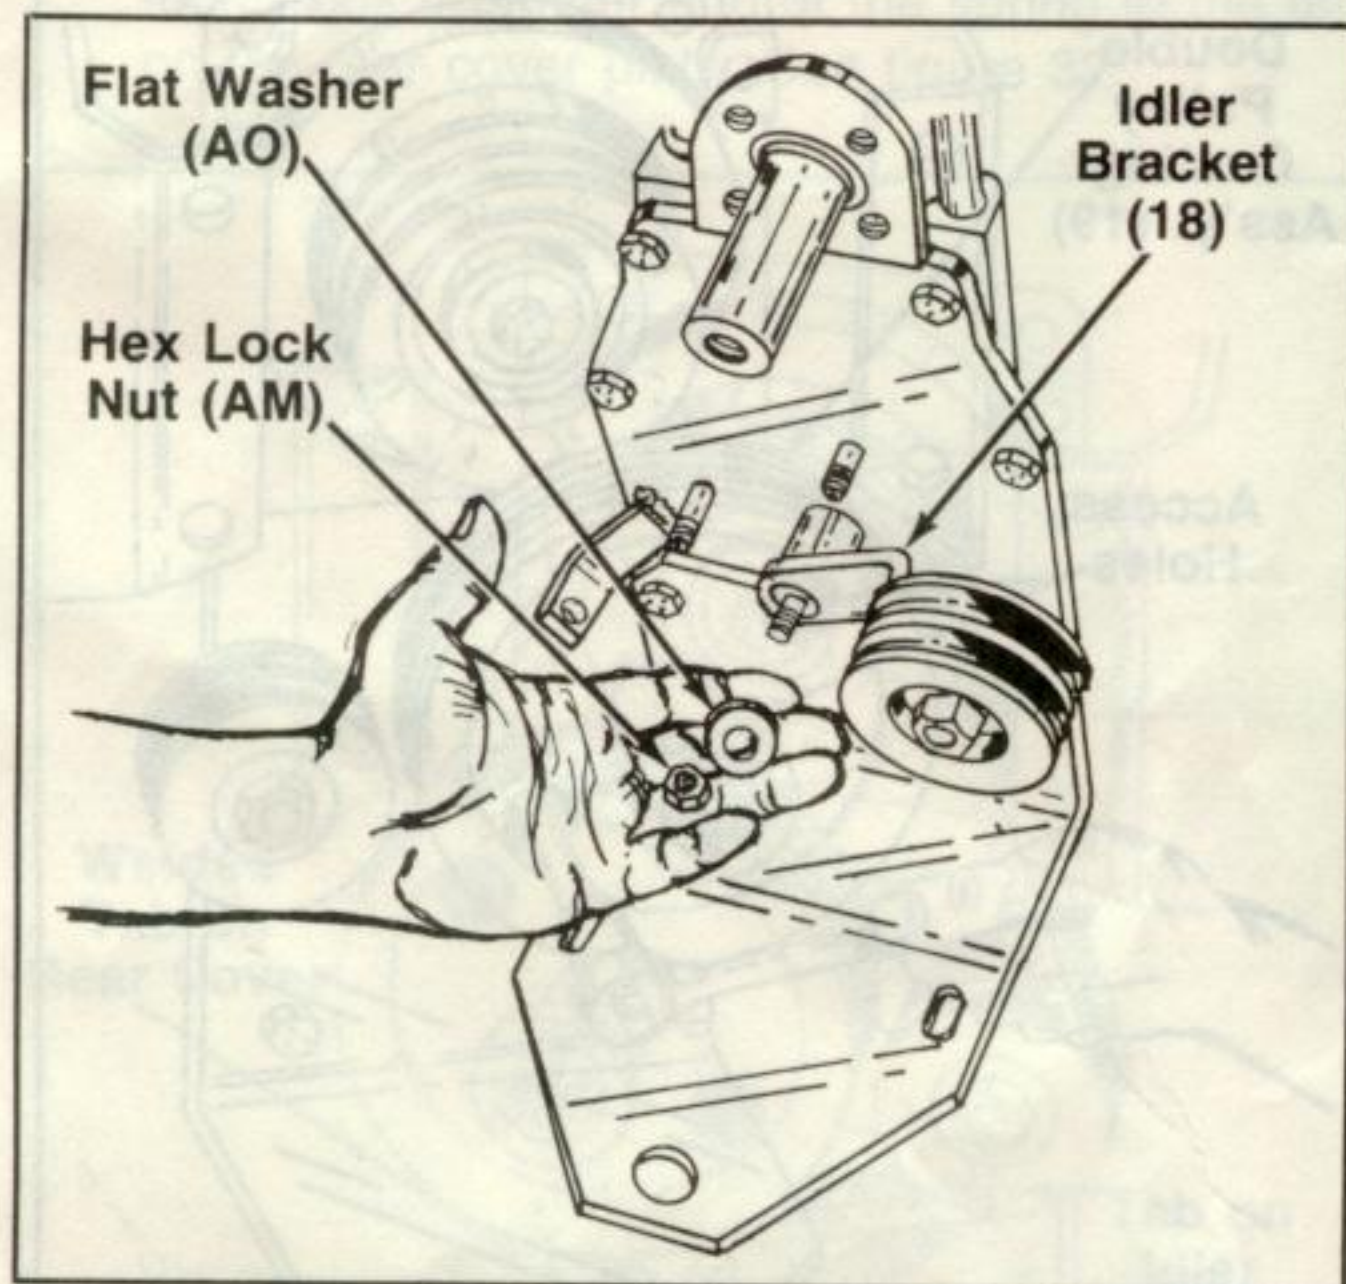

FIGURE 24.
33. Grease idler bracket assembly (18) hub before sliding over spacer (AH) using 251 HEP grease and secure with center lock nut (AM) and flat washer (AO). See figure 24.